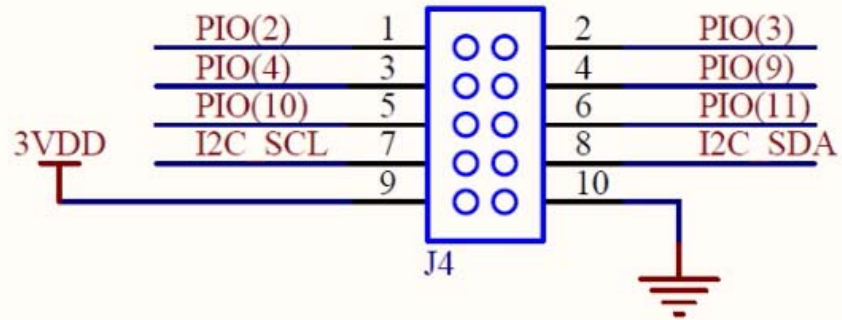

Figure 4-1: PIO Header (J4)
1. Ensure that all jumper and switch positions on the board are as indicated in Figure 4-1.